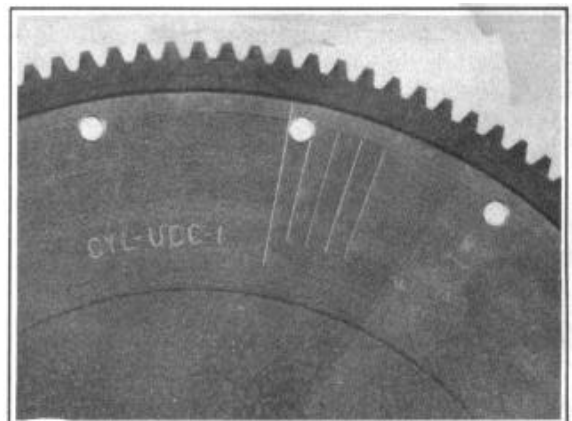

FIGURE 20
2. Place a chalk mark on the long timing mark on the flywheel, Figure 20. Loosen
Correct ignition timing is indicated by a slight ping" at about 15 MPH when accelerating at full throttle from 10 MPH in high gear. If no ping is heard, timing should be advanced one quadrant graduation mark at a time until the ping is heard. Under no circumstances should the pointer at the flywheel opening be more than one inch (first short mark) before the UDC mark when the spark occurs, Figure 20.